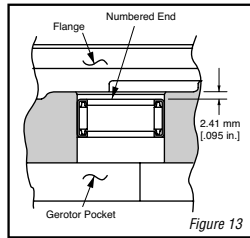

Figure 12
**11** Turn the adapter assembly over. Use an o-ring pick or similar tool remove the o-ring seal (see Figure 12).